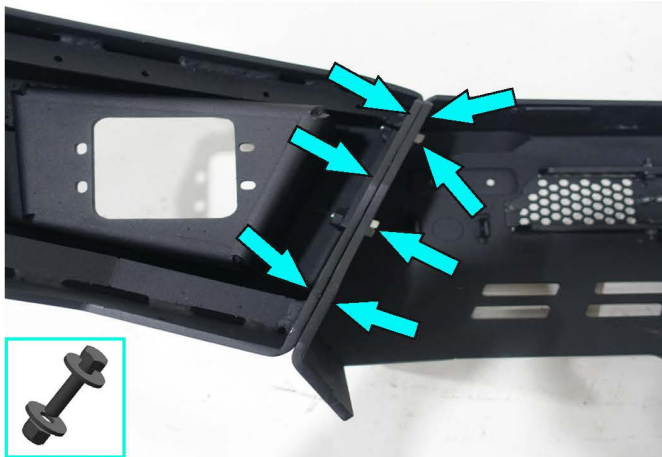

Fig.36
36. Assemble bumper body (item 14) and bumper end caps (item 12, 13) fix using insert nut M10 with 2 nuts (item 15), bolts M10x30, nuts M10, washers 10 (item F, Q, K) (fig.36).